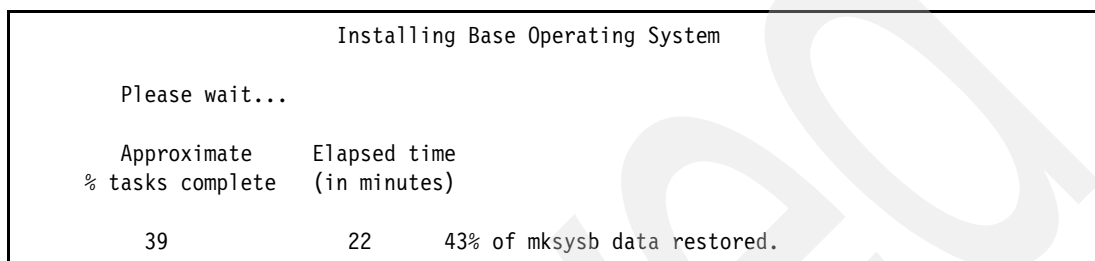

Figure 12-15 Progress of restore process screen
17. A window similar to that shown in Figure 12-15 indicates the progress of the restore process.